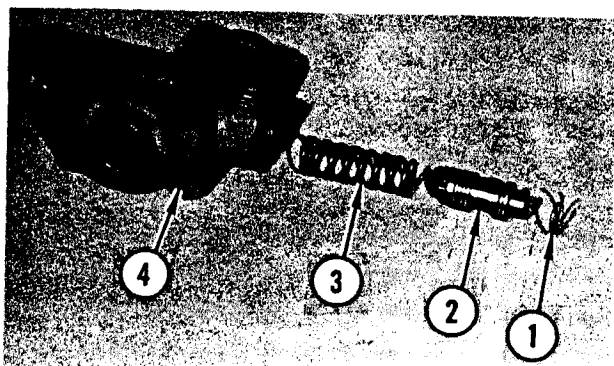

FIGURE 25. FLOW CONTROL VALVE
Refer to Figure 25. Using a pair of snap ring pliers, reach inside the inlet port and remove the retaining ring (1). Turn valve body on end to remove valve assembly (2) and spring (3) from valve body (4).